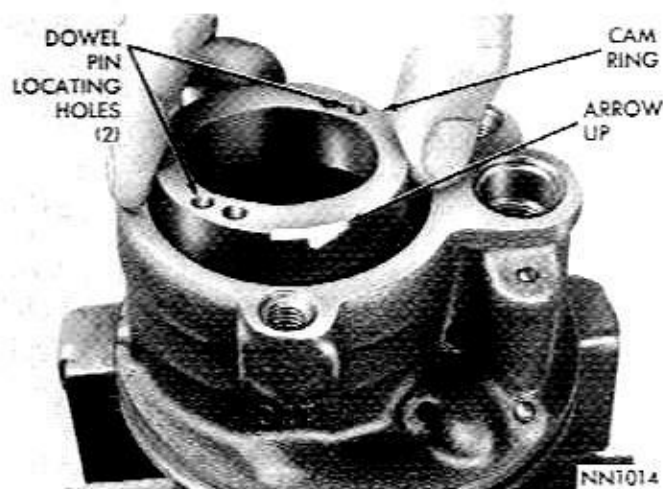

Fig. 15—Installing Cam Ring
(7) Slide cam ring over rotor on dowel pins with arrow on ring facing "UP" (Fig. 15).